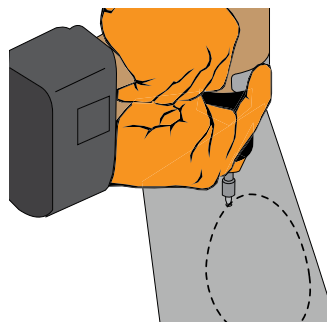

FIG. 19b
- Drill a pilot hole using a stepped drill bit to create a starting place for cutting [FIG. 19b].